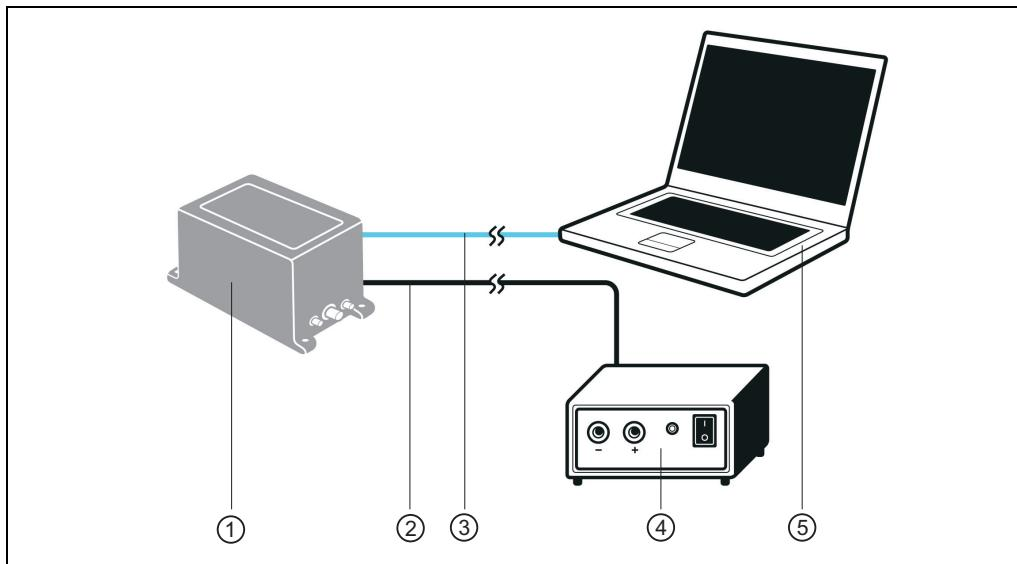

Fig. 5-3: Connection of the voltage supply and wiring of the Ethernet interface
1. Connect the supply cable, e. g. Part no. 2049823 (2 m (6.56 ft)), to the LD-MRS, see Fig. 5-3, page 68.